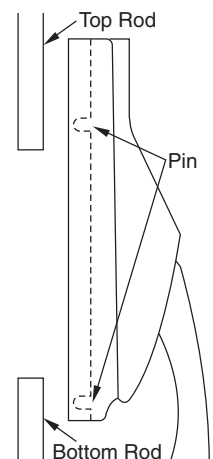

Figure 11
1. Position case so that pins in back engage holes in top and bottom rods. (Figure 11)